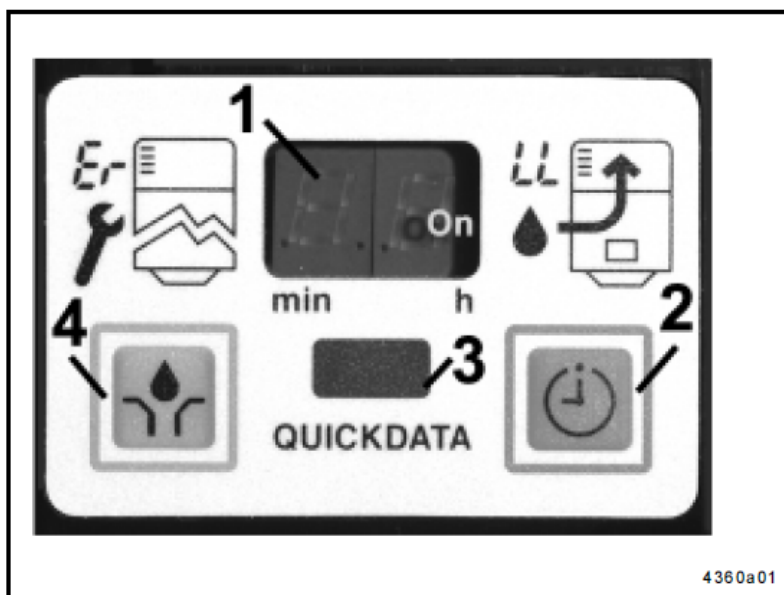

Fig. 22 - Membrane key pad with display and reading window
- displaying functions, faults, low-level indications and time settings in the display window 1, fig. 22 (display mode)